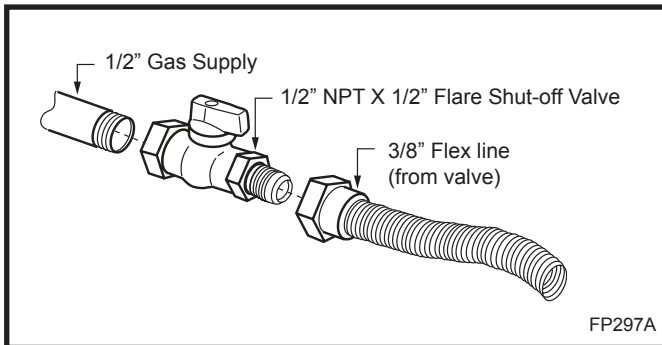

Fig. 5 Typical gas supply installation.
2. The gas control inlet is 3/8" NPT typical installation layout for rigid pipe is shown in Figure 5.